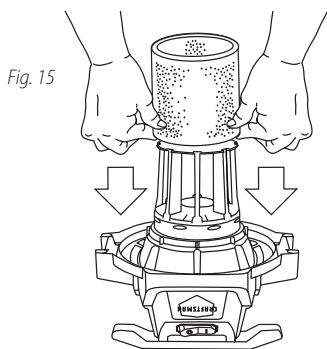

Fig. 15
32. With tank cover in an upside down position, slide foam sleeve **20** down over lid cage pulling until foam sleeve **20** completely covers lid cage. **Fig. 15**.